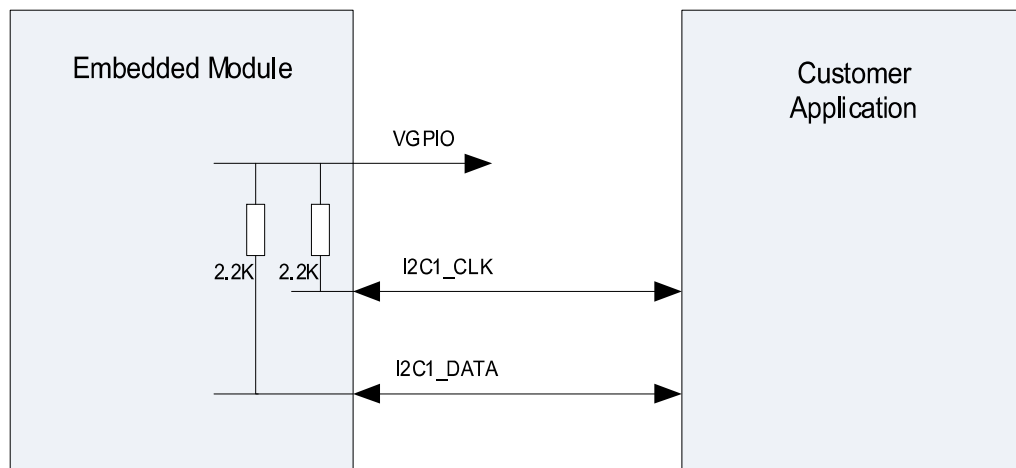

Figure 4-4: Example of I²C Bus Application
- I²C signals are implemented internally as open drain outputs (per the I²C specification) with 2.2 kΩ pull-up resistors to VGPIO (see Figure 4-4).